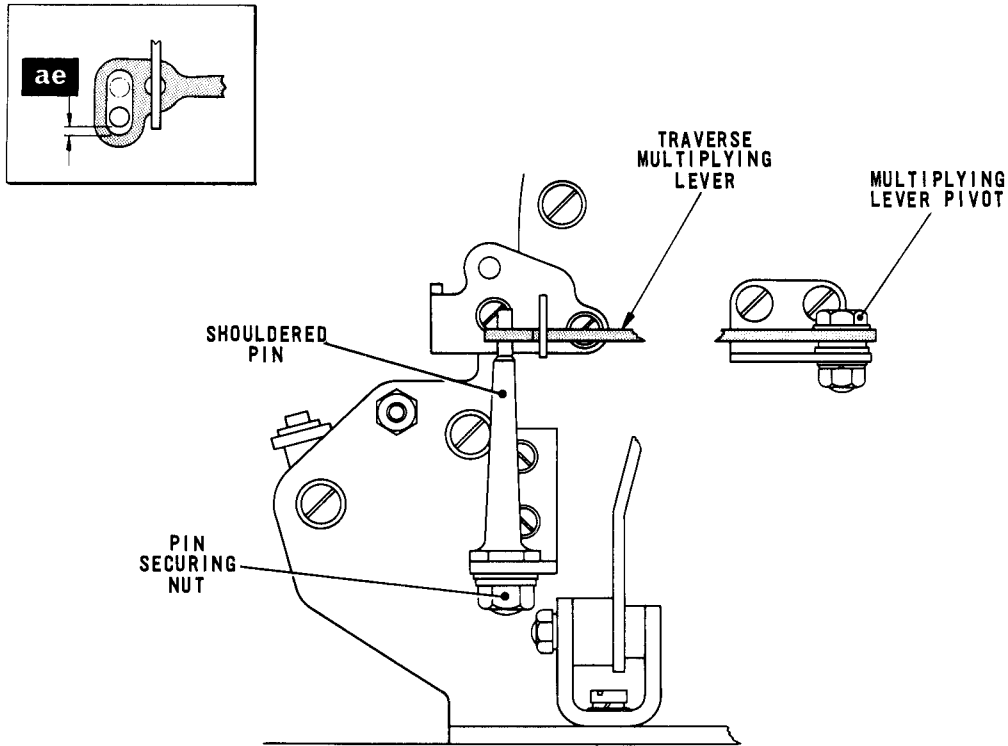

Fig. 4.26 PIN-BOX TRAVERSE ACTION
- 29.1 Clamp the pivot of the traverse multiplying lever, Fig.4.26, in the mid-position of its movement.